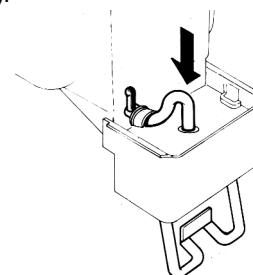

figure 14
- 3 - Insert the pinch tube end into the faucet body vertical seat (see figure 14).